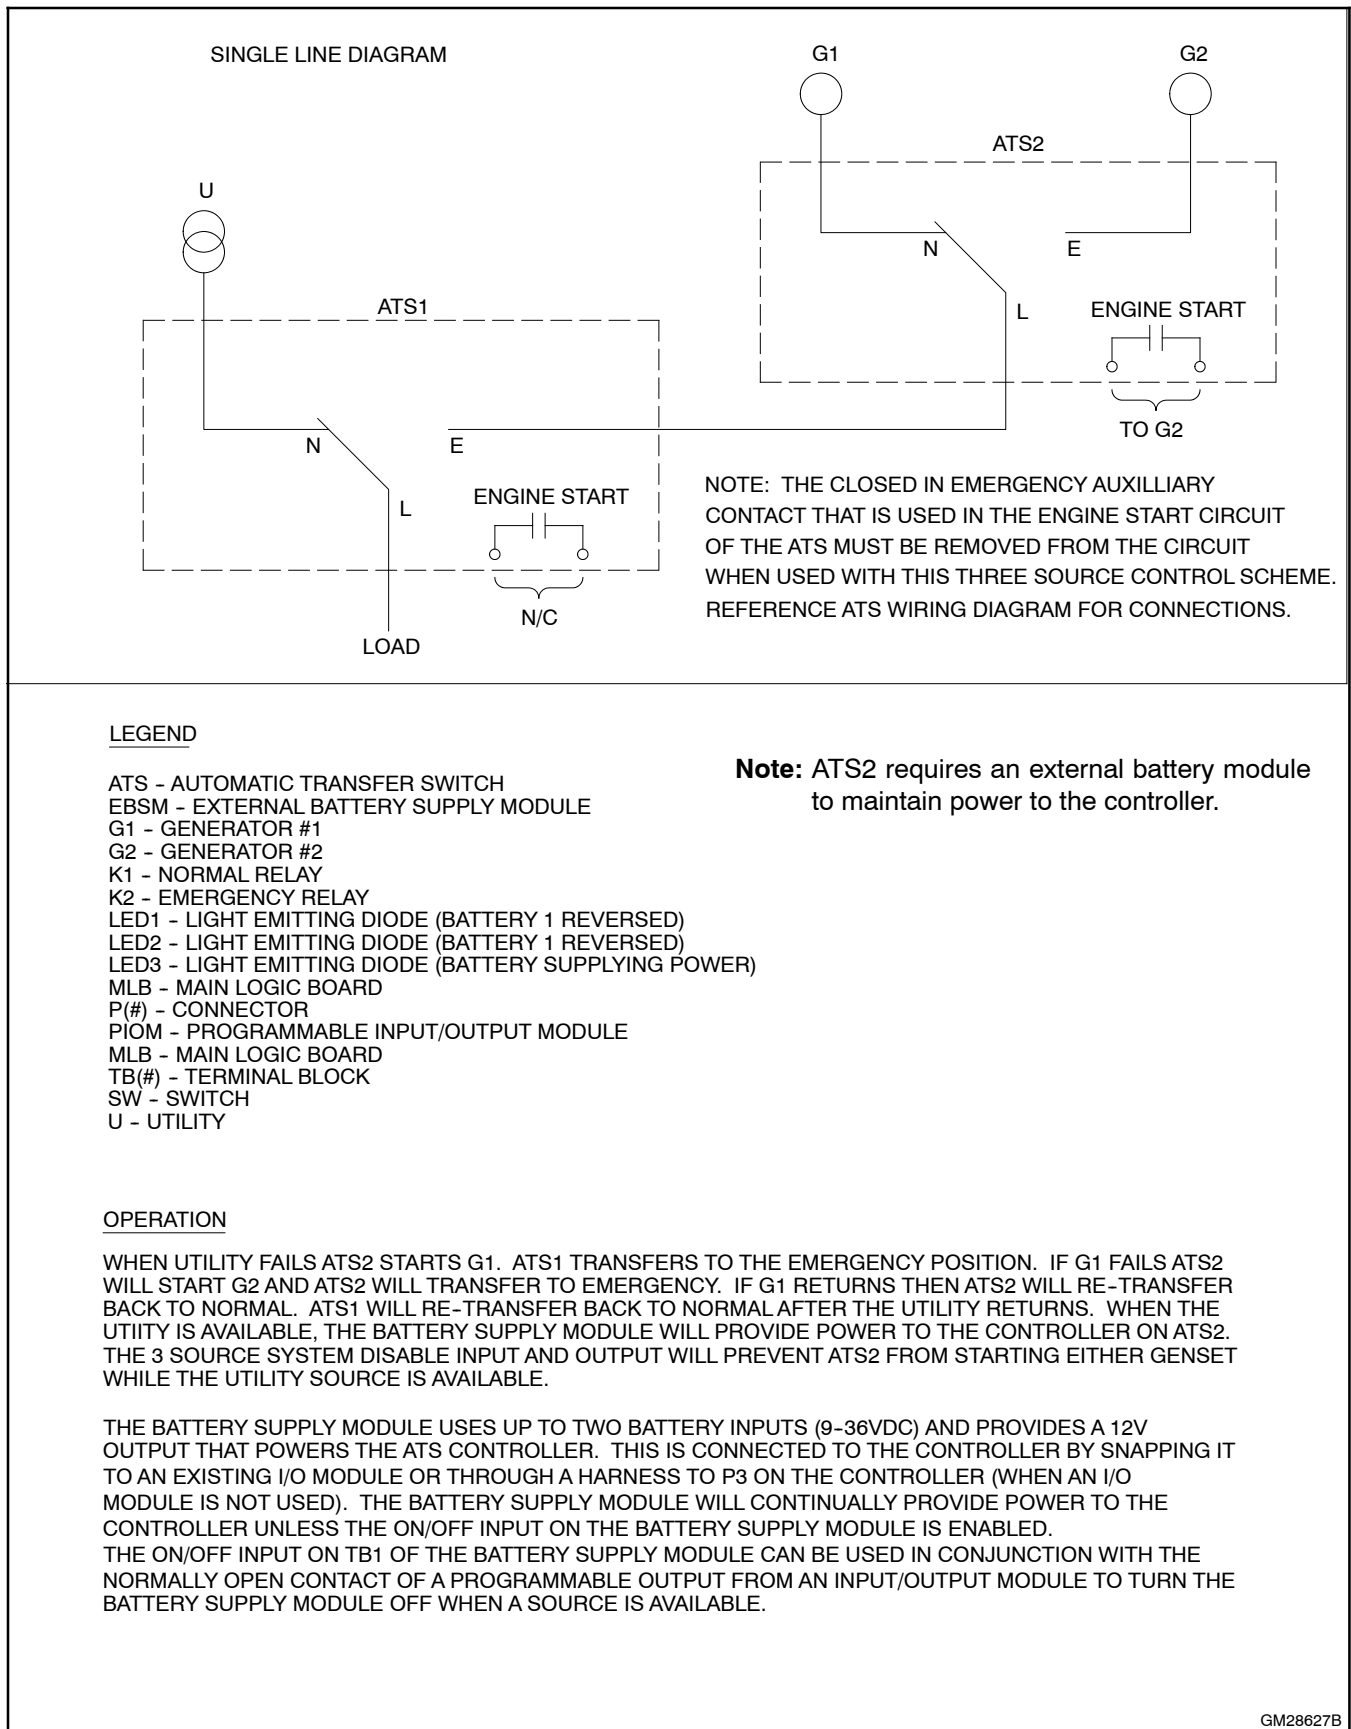
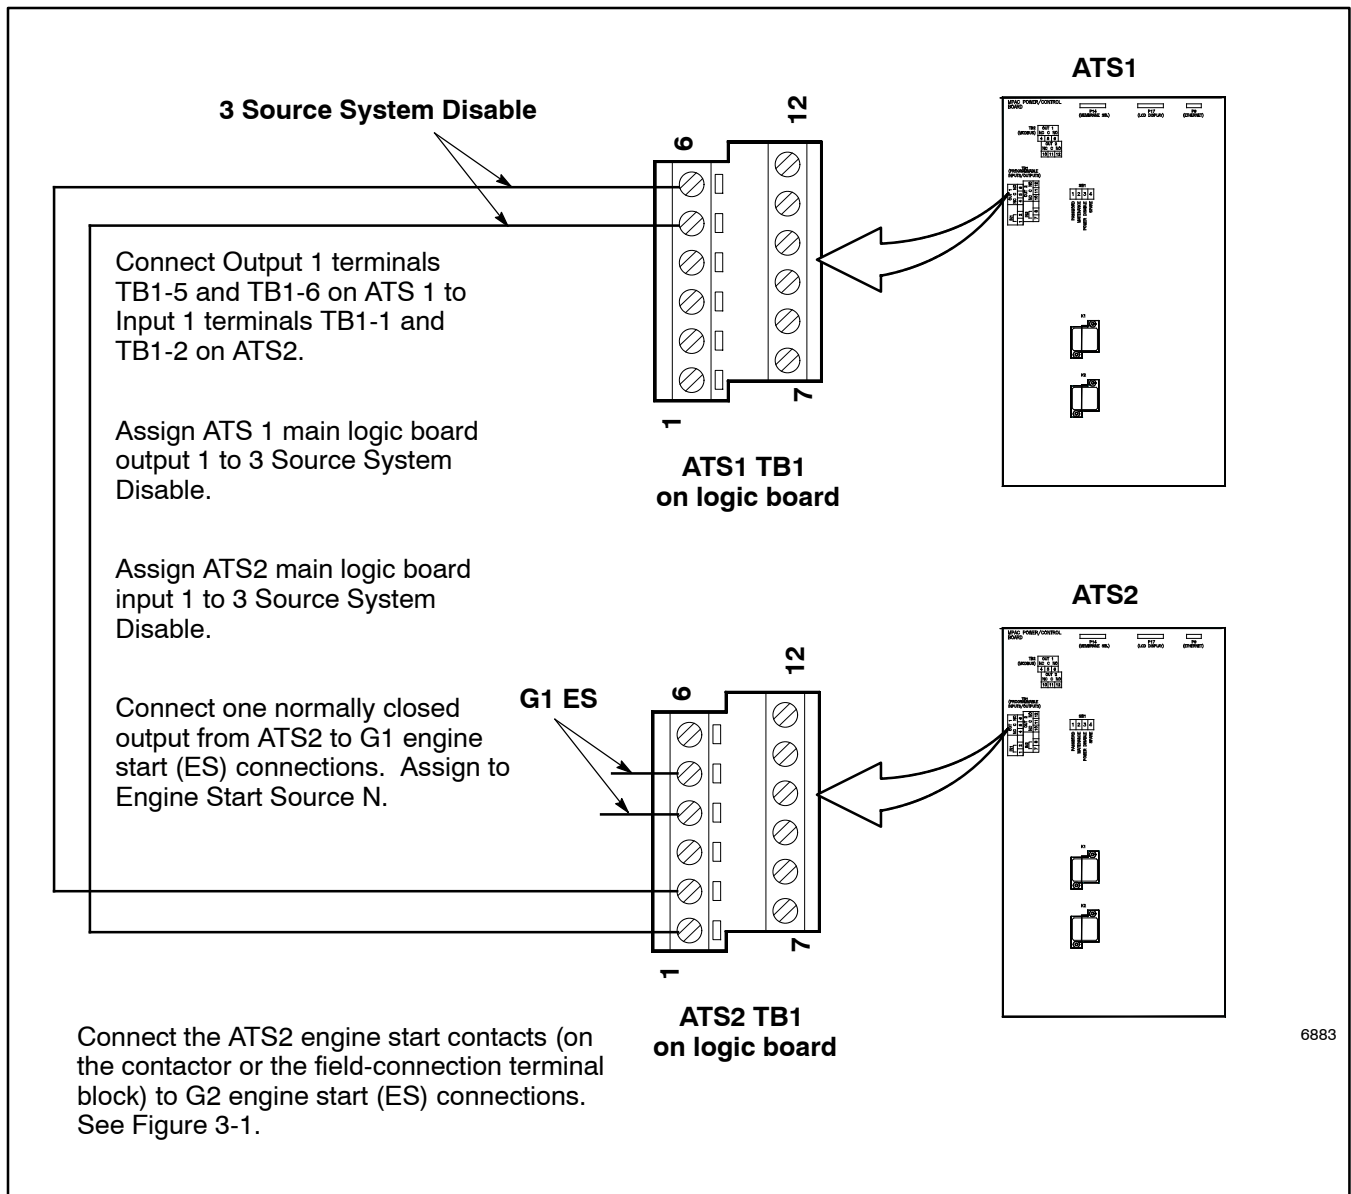

Figure 3-1 Three-Source System Transfer Switch and Source Connections
Figure 3-2 Input and Output Connections for Three-Source Systems
A three-source system provides the means to connect a utility and two generators to a single load. See Figure 3-1. Two generators and two transfer switches are required.
See Figure 3-1 and Figure 3-2 for connections during the following steps.
1. Connect the power sources to the transfer switches as described below. Refer to the transfer switch operation/installation manual or specification sheet for cable sizes. See Figure 3-1 for connections.
commands for generator sets 1 and 2. Observe the polarity of all connections shown in Figure 3-2. Use wire sizes from #14 AWG to #20 AWG for EBSM and I/O module connections.
- b. Connect one ATS1 programmable output from the controller to one ATS2 main logic board programmable input as shown in Figure 3-2. This I/O connection will be set to Three-Source System Disable.